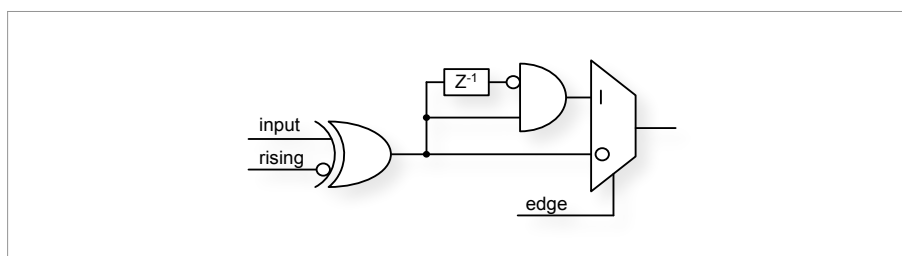

Figure 2.17: The digital inputs Trigger, GATE, BUS0, BUS1, BUS2 and BUS3 have simpler trigger units.
The configuration is set via the structures ***trigger[8]*** and ***trigger[9]*** in the ***configuration structure***. The input circuit is shown in Figure 2.17 on page 15.
- the GATE input (Figure 2.17 on page 15)
- the Trigger input (Figure 2.17 on page 15)